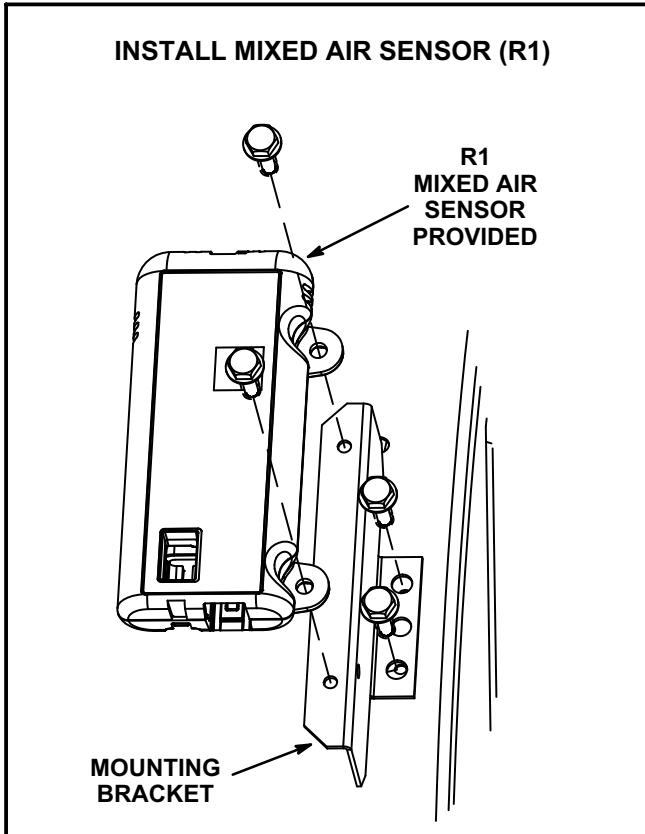

FIGURE 15
- 2- Install sensor on mounting bracket as shown in figure 15. Secure with #8 - 32 X 1/2" TFS screws provided in kit.
- 1- Connect J3 harness wires marked "R1" to the 10" R1 adapter harness. Connect the other side of the R1 adapter harness into the mixed air sensor. See figure 15 And 16. Make sure to secure wires away from moving parts.